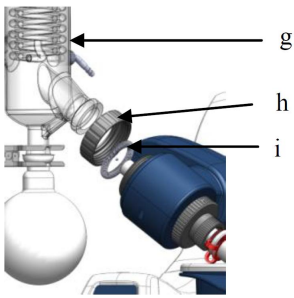
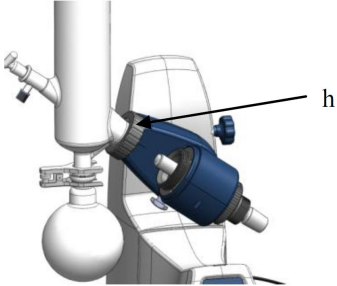

Figure 7
Figure 8
- Installing condenser (g) (Figure 7 and Figure 8).